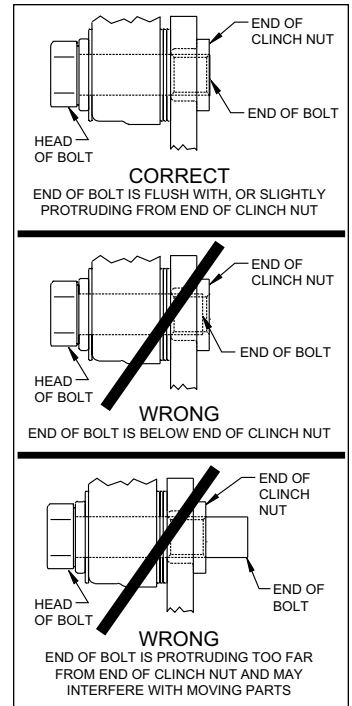

Figure 4. Clinch Nut Engagement Diagram
CAUTION: All mounting bolts must fully engage clinch nuts. Be sure to check that all bolts are either flush or protruding through flanged side of clinch nut after shimming, Figure 4.
•Adjust by adding or subtracting shims (2) between the bracket and the spindle. Always use the same amount of shims on each of the two mounting bolts.
•**NOTE:** The end of each bolt must be flush with or slightly protruding from the head of the clinch nut, as shown in Figure 4. If necessary place spare shims (2) between washer (19) and caliper mounting ear to achieve the proper clinch nut engagement. Once the caliper alignment and clinch nut engagement is correct, remove the ProSpindle and steering arm bolts one at a time, apply red *Loctite*® 271 to the threads, and torque to 55 ft-lb. Remove the caliper mount bolts one at a time, apply red *Loctite*® 271 to the threads, and torque to 40 ft-lb.
•Install the disc brake pads (21) into the caliper (18), with the friction material facing the rotor (8), and secure in place using cotter pin (22), Photo 10.